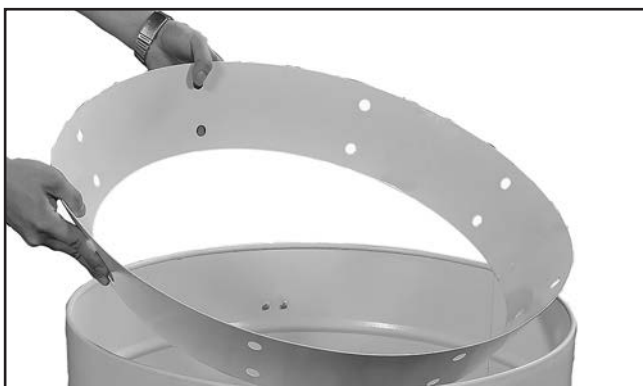

Figure 29. Inserting collection drum vacuum ring.
26. Place collection drum vacuum ring on bottom of collection drum (see **Figure 29**).